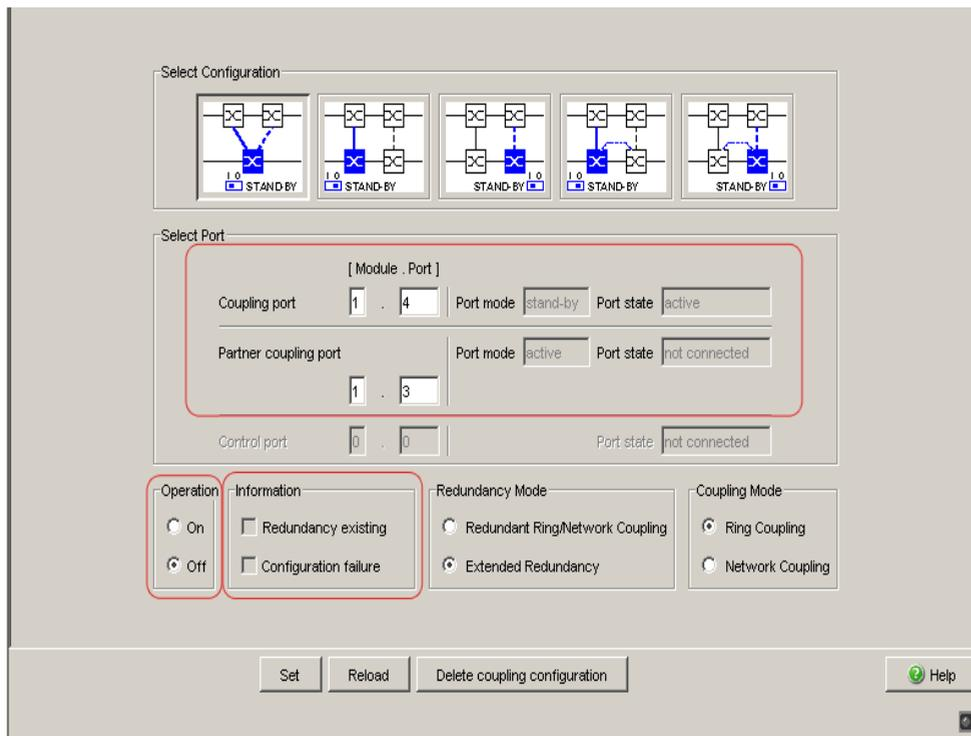

Figure 10: One-Switch coupling: Selecting the port and enabling/disabling operation
- Select the partner coupling port (see figure 10).
- Select the coupling port (see figure 10).
- Activate the function in the “Operation” frame (see figure 10)